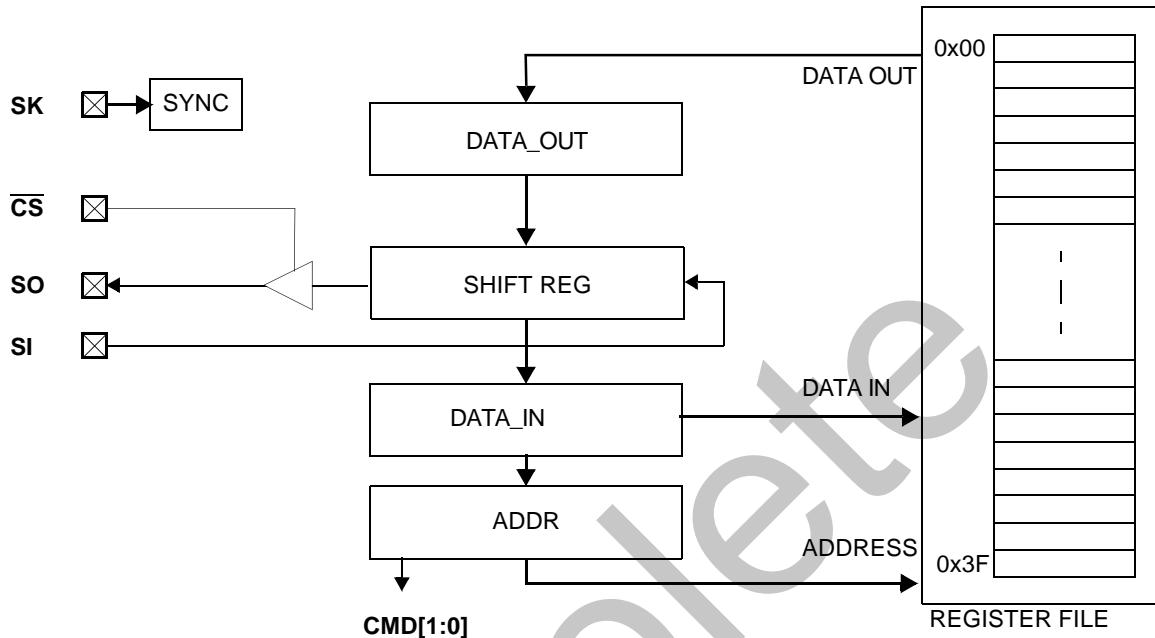

Figure 10. MICROWIRE Interface Block Diagram
IRE/PLUS mode uses pins called chip select (\overline{CS}), serial clock (SK), serial data in (SI), and serial data out (SO), as shown in Figure 10.